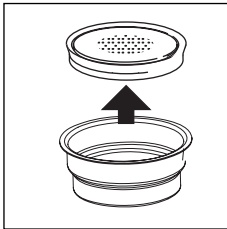

fig. 24
- Remove the crema enhancer from the container by pushing it from the cap end (fig. 24).